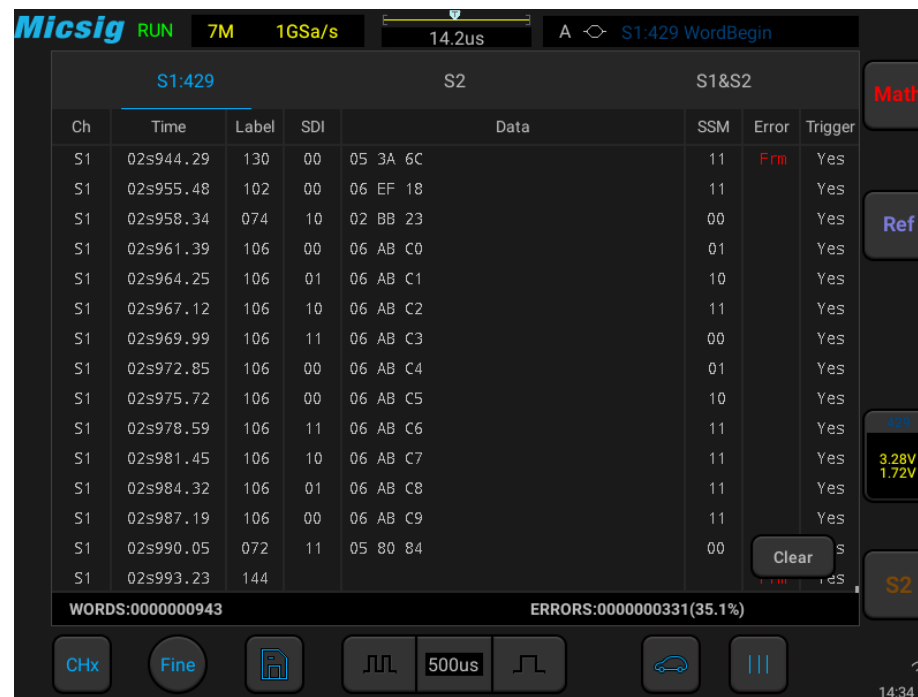

Figure 13-29 ARINC429 Text Interface
**ARINC429 text interface description, as shown in Figure 13-29:**
- (1) “Ch”: bus channel.
- (2) “Time”: intervals between the last read/write operations to current read/write operations
- (3) “LABEL”: label, information identifier, displayed in octal.
- (4) “SDI”: source/target identifier, displayed in binary (displays XX if not identified separately).
- (5) “Data”: content of the transmitted information, displayed in the selected numeration system.
- (6) “SSM”: symbol/status matrix, displayed in binary (displays XX if not identified separately).
- (7) “Error”: displays the frame error type (parity error Par, frame error Frm).
- (8) “Trigger”: “Yes” means reach trigger condition.